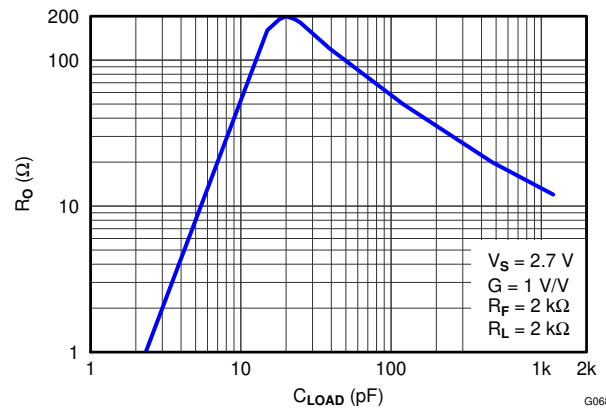
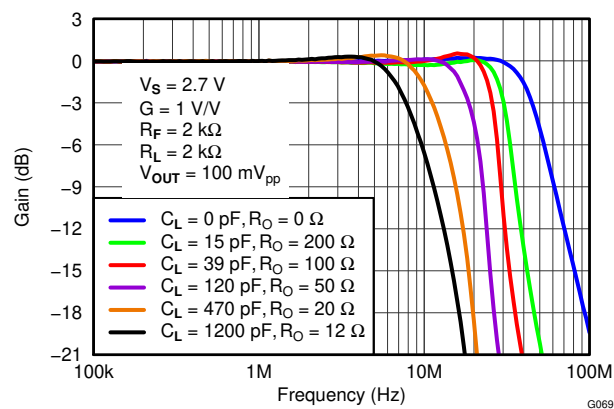

Figure 78. Recommended Series Output Resistor vs Capacitive Load for Flat Frequency Response
Figure 79. Frequency Response for Various R_O and C_L Values
Inserting R_O will compensate the phase shift and restore the phase margin, but it will also limit bandwidth. The circuit shown in Figure 69 is used to test for best R_O versus capacitive loads, C_L , with a capacitance placed differential across the V_{OUT+} and V_{OUT-} along with 2 k Ω load resistor, and the output is measure with a differential probe. Figure 78 shows the optimum values of R_O versus capacitive loads, C_L , and Figure 79 shows the frequency response with various values. Performance is the same on both 2.7 V and 5 V supply.
4. A series output resistor is recommended to be placed as near to the output pin as possible. See Figure 78 Recommended Series Output Resistor vs. Capacitive Load for recommended values given expected capacitive load of design.